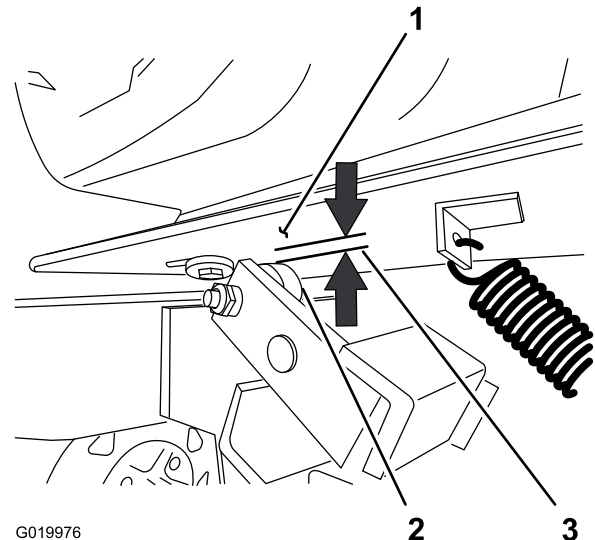

Figure 56
2. Measure the air gap between the engine deck and the roller on the clutch (Figure 56).